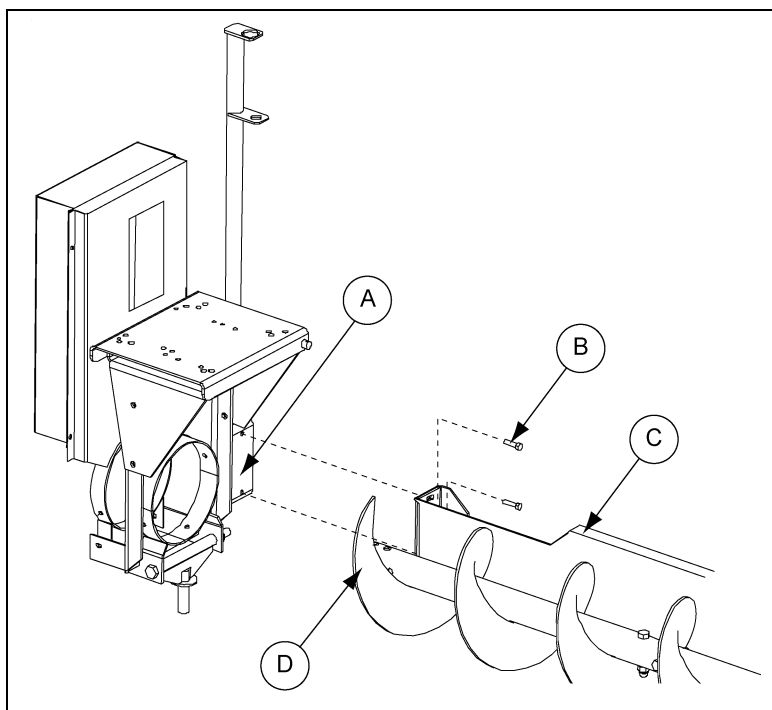

Figure 4H
1. Bolt the sweep flight with the cutback (D) to the reducer output shaft of the drive assembly. Use two (2) 5/8" x 4" long hex head cap screws and nylon lock nuts. *(See Figure 4H.)*
2. Attach the sweep back shield with cut out (C) to the shield mount plate (A) on the drive assembly. Use two (2) 3/8" x 1-1/4" long hex head cap screws, flat washers, lock washers and nuts (B). *(See Figure 4H.)*